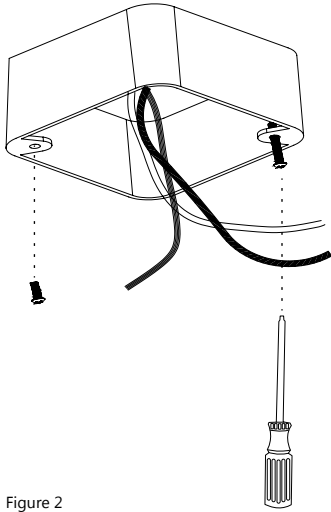
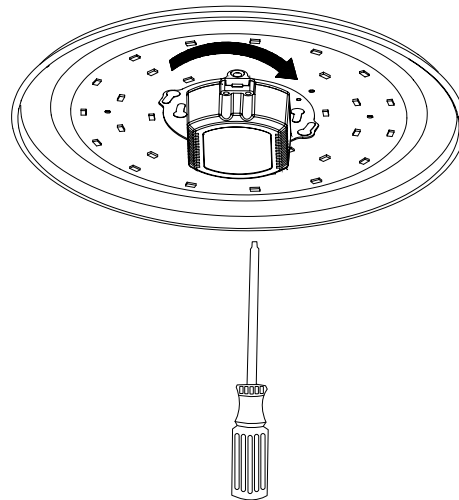

Figure 2
Figure 5
3. Install electrical box screws into the junction box (see figure 2 & 3).
5. Put the luminaire plate across the screw of the lock (seen in figure 2) then rotate luminaire plate clockwise and lock it tightly with the screw lock (figure 5) Securely mount the fixture plate to the junction box.